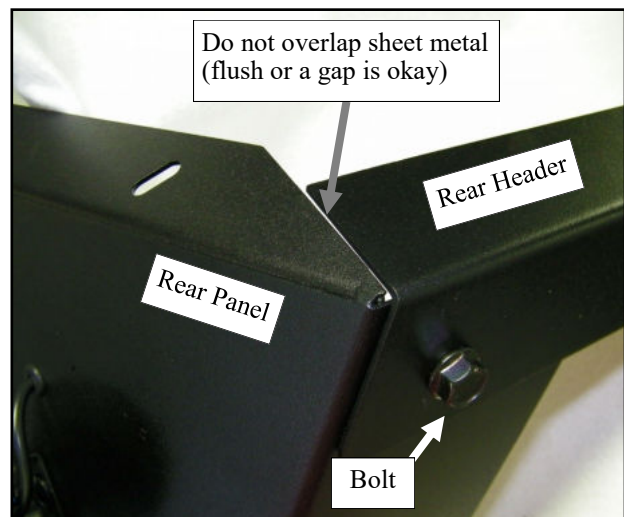

Fig. 6.1 (view of passenger's side)
6.1 Per fig. 6.1, align the rear edge of the header with the top edge of the rear panel and install the rear bolt. **Install finger tight at this time.**